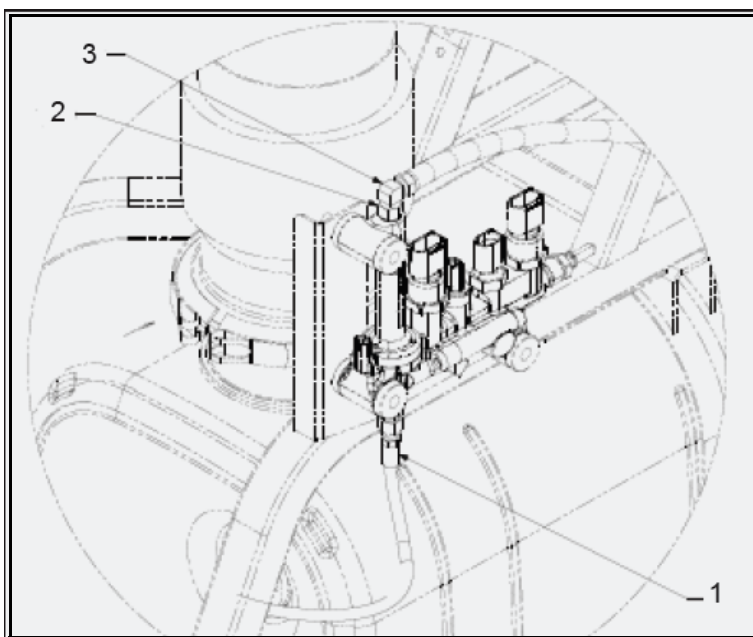

Figure 3.
9. Orient and install the adapter, p/n 19-10-3010 (refer to Figure 3). Torque the adapter to 6-9 ft.-lbs.